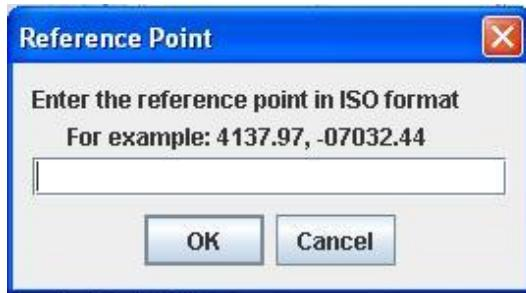

Figure 6-8. Reference Point Dialog.
3. Enter a name for the map (e.g. new-york-harbor-NY) and select 'OK'. This will result in two further dialogs (similar to that shown in Figure 6-8) requesting the lower-left and upper-right map coordinates respectively.
2. Enter a name for the map (e.g. new-york-harbor-NY) and select 'OK'. This will result in two further dialogs (similar to that shown in Figure 6-8) requesting the lower-left and upper-right map coordinates respectively.
It is sometimes useful to add visible reference points to the currently displayed map. This can be achieved by selecting Maps/Draw Reference Point, from the Glmpc Terminal's menu bar. The resulting dialog (shown in Figure 6-8) appears, requesting the user to enter the reference point latitude and longitude, in the ISO format \pm DDMM.MMM, \pm DDDMM.MMM.